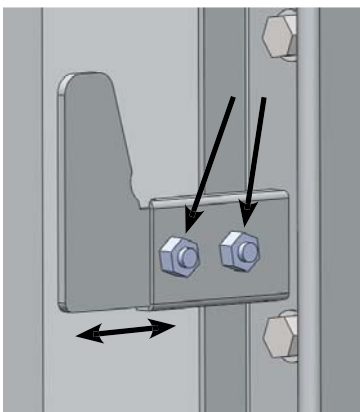

Fig. 28
Loading door gasket tightening instructions can be found below under point 8 and fig. 28
8. Door adjustment: the door seal is adjusted by moving the latch catch on the furnace in or out. To do this, undo the two bolts (see fig.28). The gasket should be just tight enough to test ok as in step 9, do not over tighten the latch which makes the door difficult to latch.